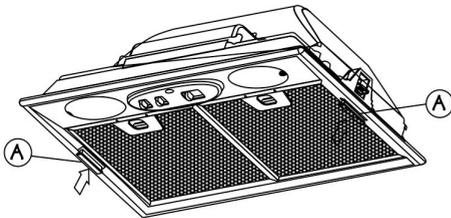

Figure 3
Close the ducting support by pushing and connecting the two knobs (A) (fig. 3).
The air is recirculated into the kitchen through the opening located on the upper side of the cupboard or the hood (fig. 3).